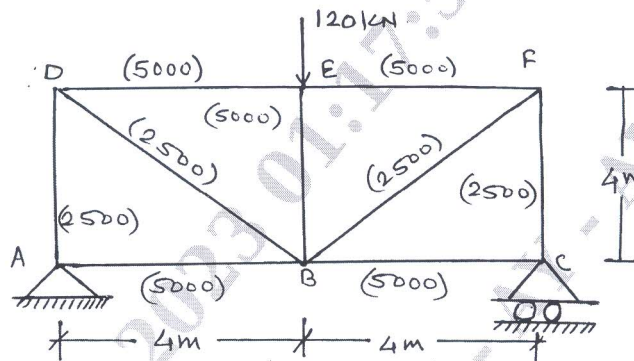

Fig.Q8(a)
- 8 a. Find the vertical deflection of the joint B in the truss loaded as shown in Fig.Q8(a). The cross-sectional area of the members in mm are shown in brackets. Take $E = 200\text{kN/mm}^2$.